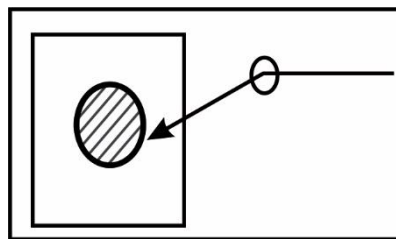

FIGURE 4.2
4.2 Identify the correct instruction for the welding symbol in Figure 4.2.